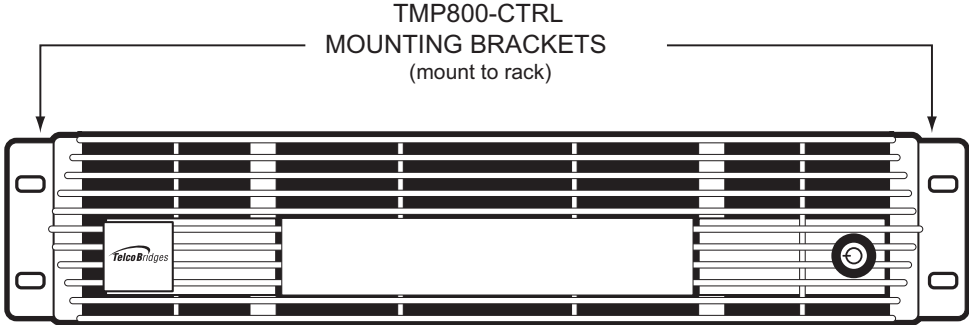
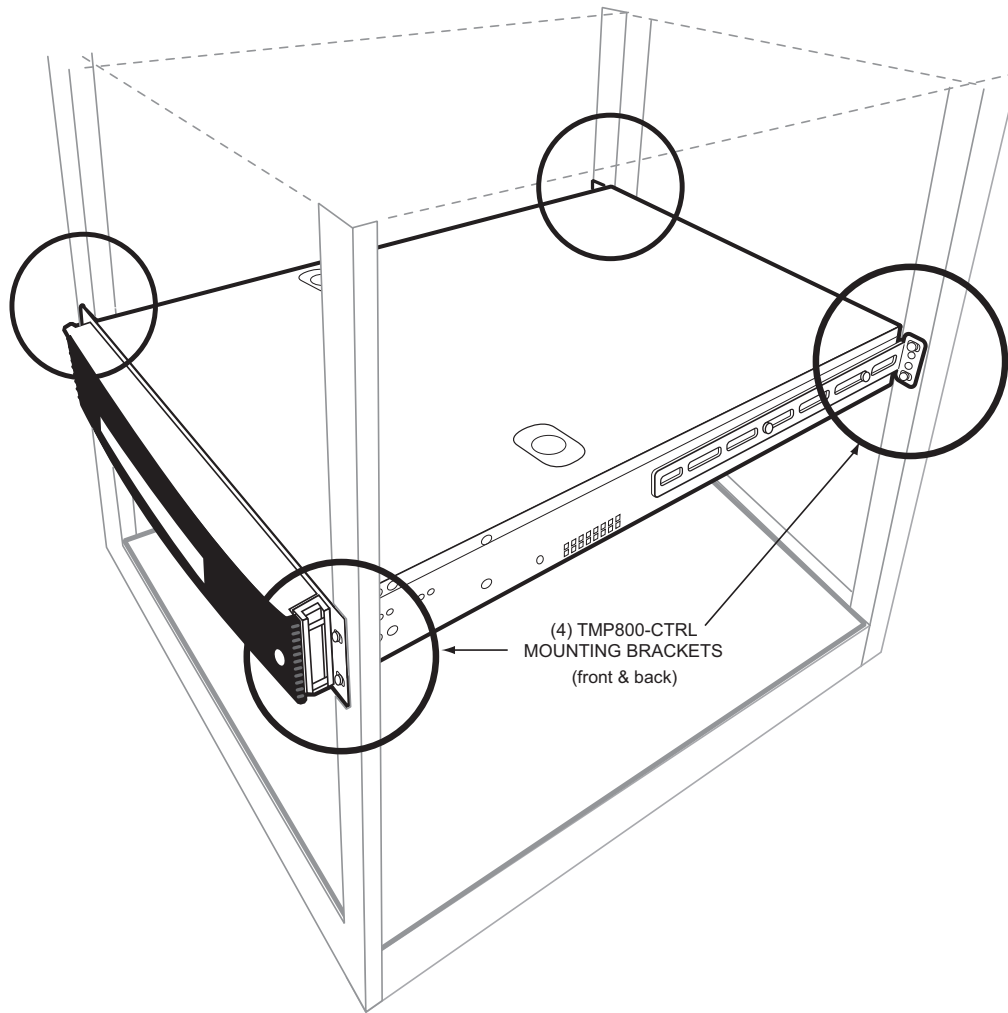

Figure 2.8 Front View of TMP800-CTRL with Front Mounting Brackets
Figure 2.9 TMP800-CTRL Installed in the Equipment Rack
3. Secure it in place using the screws provided with the bracket. See figure 2.8 on page 15 and figure 2.9 on page 16.